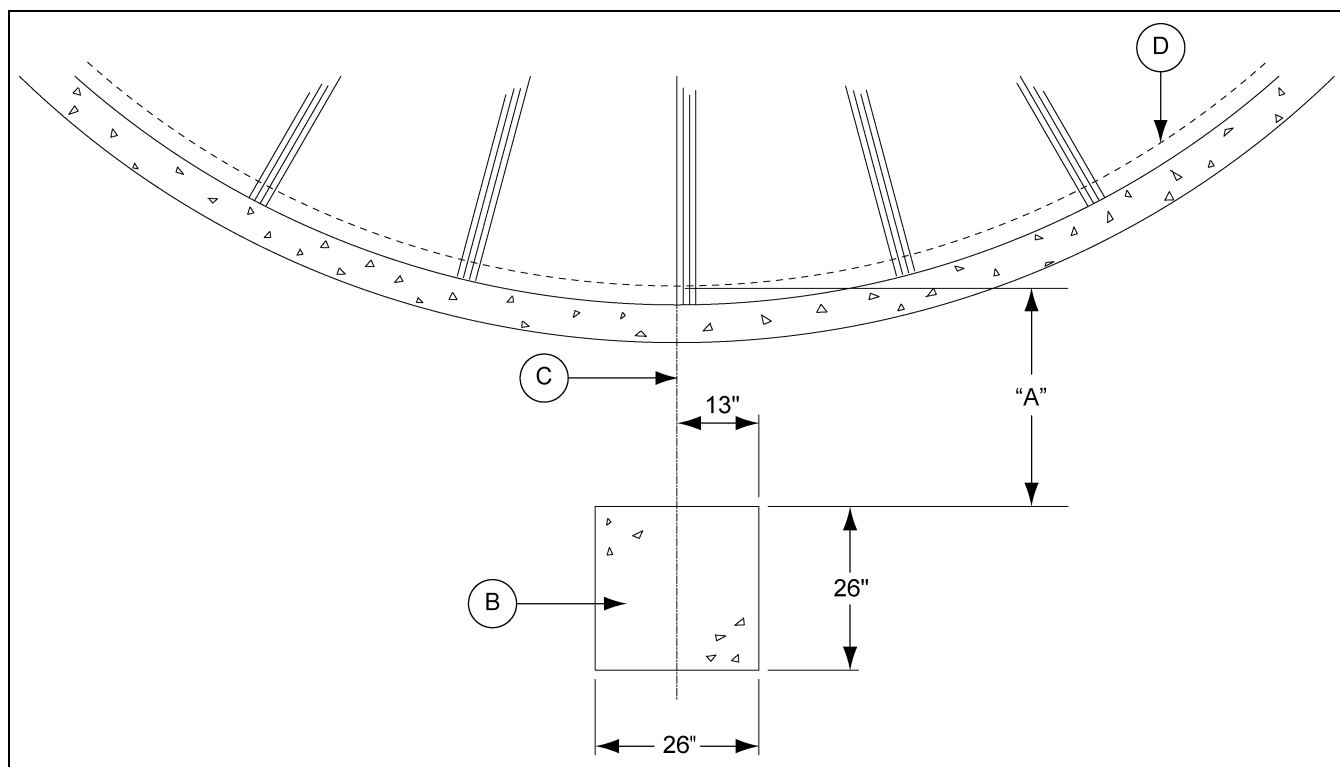

Figure 4Z Vane Axial Fan Foundation
4. Concrete foundation for the heater is not required. If it is to be added, pour the concrete to cover the locations of both the heater and the fan. (See Figure 4Z.)